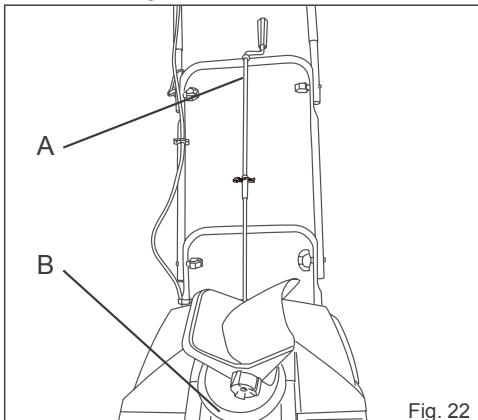
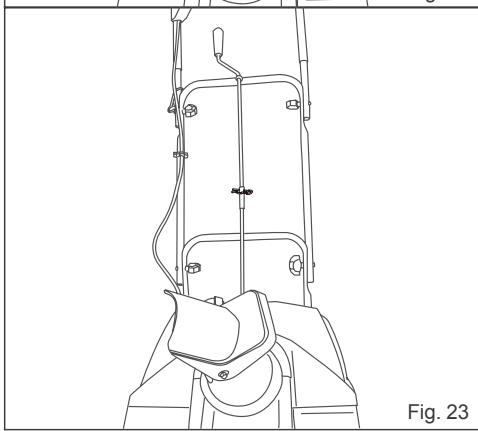

Fig. 22
Fig. 23
- The discharge chute can be adjusted 180 degrees by rotating the chute crank. Rotate the chute control crank clockwise to move the discharge chute to the left (Fig. 22) and counter-clockwise to move the chute to the right (Fig. 23).
NOTE: A little lubricant, will provide a smoother operation of the chute (spray at points A and B as indicated in Fig. 22).